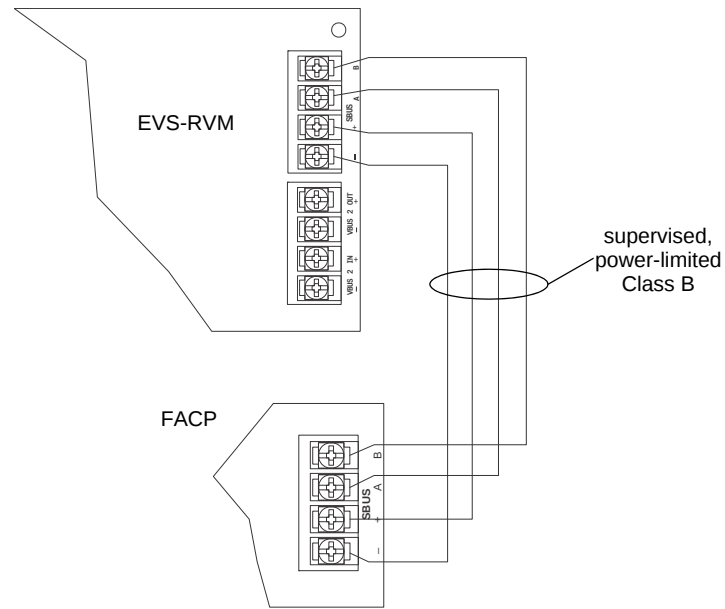

Figure 4.53 EVS-RVM SBUS Connections
1. Refer to Figure 4.53 to properly connect the EVS-RVM to the FACP's SBUS.